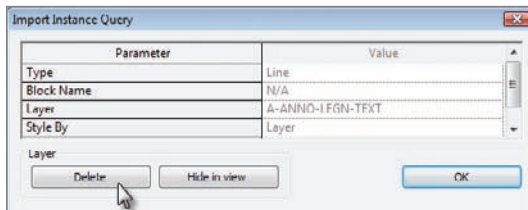

FIGURE 11.57 You can query items in the CAD import. You can also delete items.
5. After you select the line, Revit will report information back to you about that line. You are also given the chance to delete the layer. Click Delete, as shown in Figure 11.57.